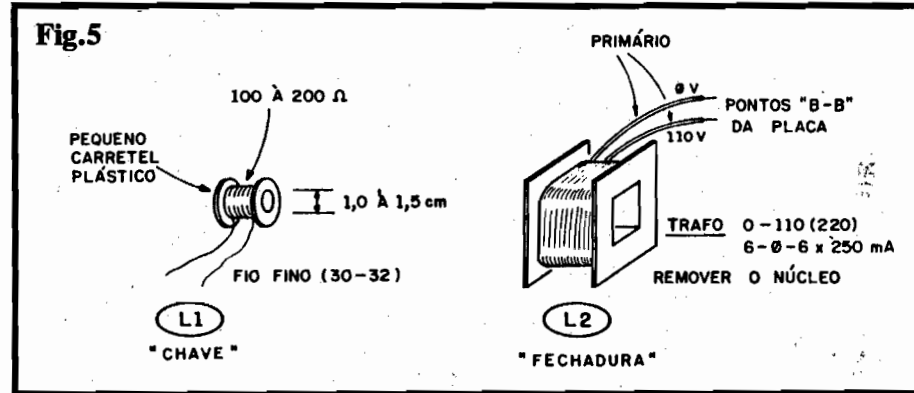

Fig.5
- FIG. 5 - CONSTRUÇÃO DAS BOBINAS L1 e L2... - Para a bobina L1